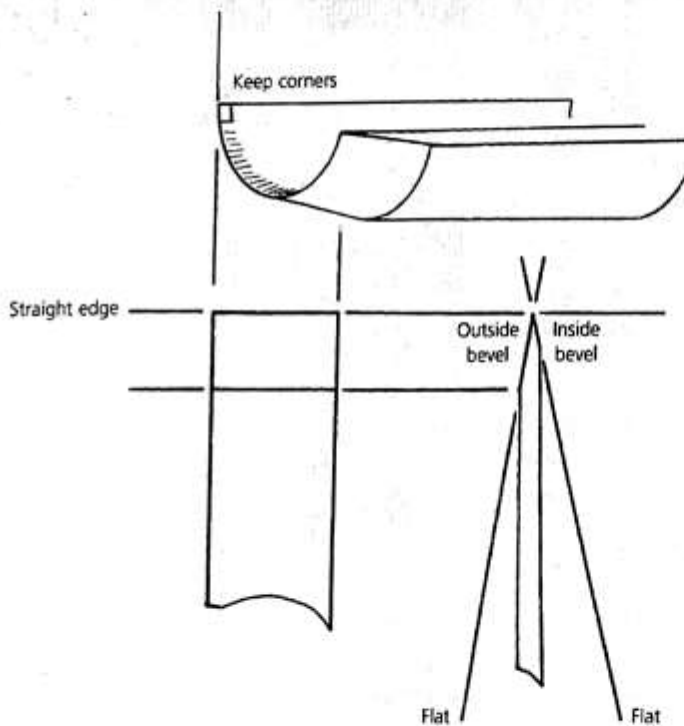

Fig 12.47 Features of a correctly sharpened gouge
- 7 As the line starts to attenuate, alternate a few sharpening strokes with pushing the edge into the wood. All the line should disappear more or less at the same time, leaving sharp corners and a straight edge (Fig 12.47).